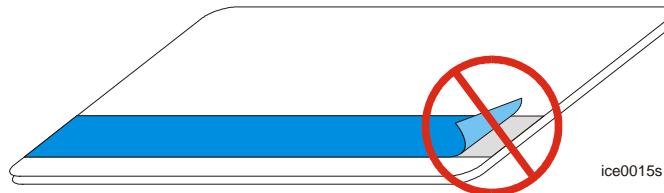

Figure 3:-16 Strip on back of magnetic stripe cleaning card
2. Open the status monitor window. To do this, either double-click on the status monitor icon in the lower right corner of the screen, or right-click on the status monitor icon and then select Display status from the popup menu. The printer status dialog box in See Figure 3:-17 appears.